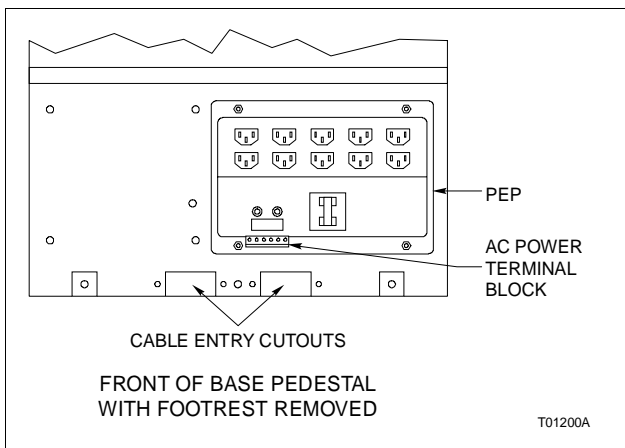

Figure PR25-5. Cable Entry Cutout and PEP Locations
- 11. Bring the power wiring from the service up through one of the cable entry cutouts in the bottom of the base pedestal of the beam in which the power wiring will be connected and run it up to the beam. Figure PR25-5 shows the location of the cable entry cutouts.